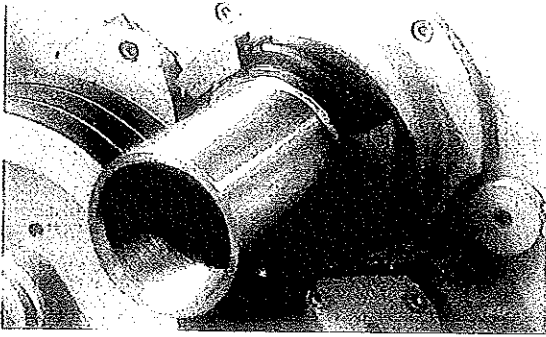

Figure 11
1. Mark lock nut and spindle. (Figure 11)
2. Mark balance weights on lock nut (Figure 11)